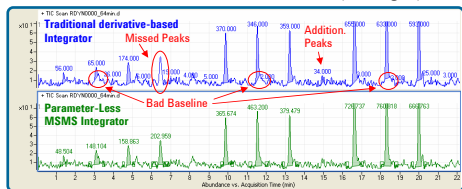

Figure 4. Traditional derivative-based integrators need tedious adjustment of integration parameters
Step 6: The integration algorithm then determines the baseline via regression analysis of a series of baseline points to the left and/or right of each peak, which were identified using the histogram in Step 2, and can be visualized in the chromatogram via boxes (Fig. 4, 5, 7).
Traditional derivative based integrators often divide the main peak into several peaks or miss peaks, and produce numerous peaks from spikes and disturbances on the baseline toward the lower limit of detection (see Fig. 4).